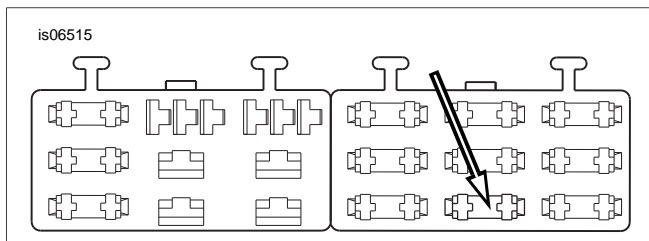

Figure 6. "OPEN" Fuse Block Cavity (2004 and Later Dyna)
4. See Figure 6. Locate the fuse cavity (1) labeled "OPEN" on the electrical caddy. There is a terminal in only one side of this cavity.